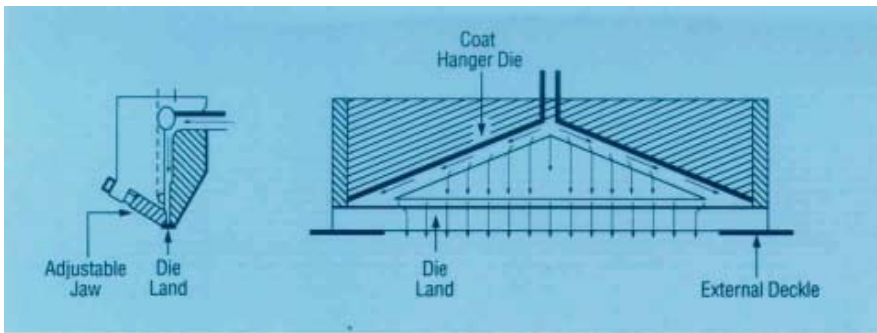

Figure 31. Schematic cross section on a “coat hanger” type die.
- “Coat-hanger” dies (Figure 31)